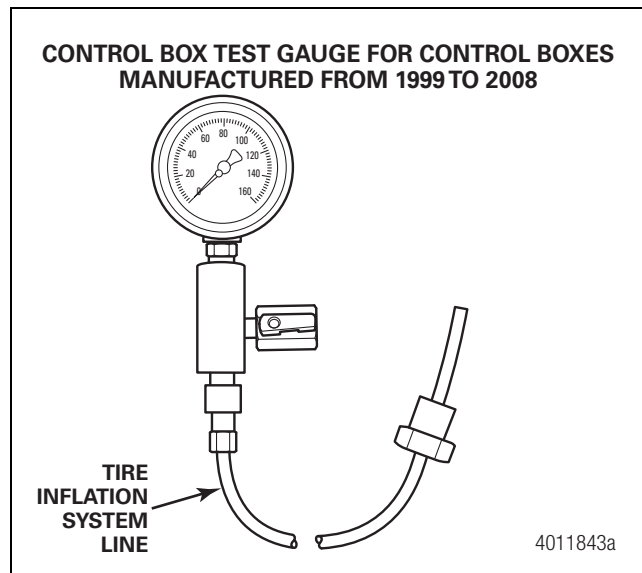
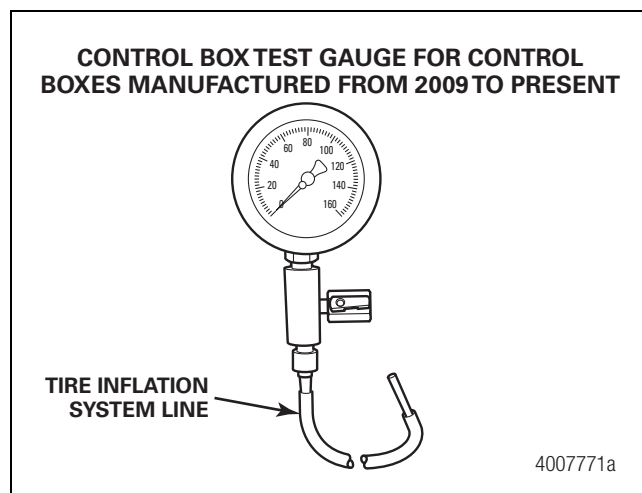

Figure 3.9
Figure 3.10
1. Obtain a gauge set consisting of a test gauge, a fitting or tubing to attach to the control box and a valve to bleed off pressure. A high-quality gauge is recommended for this process. Figure 3.9 and Figure 3.10.